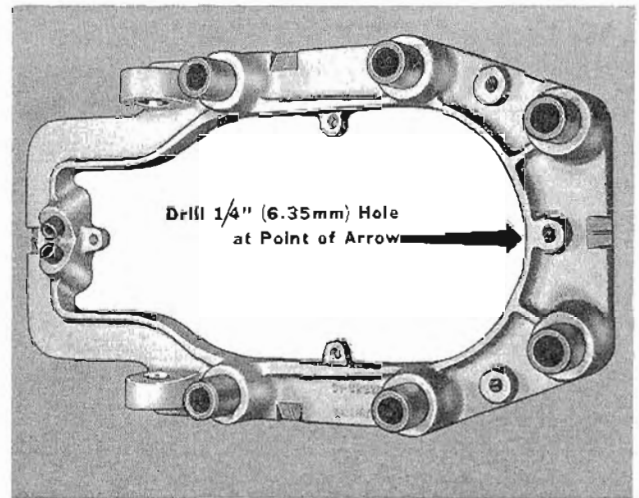

Figure 1. Location of Hole to Be Drilled When Using C-91-32924A1 Transom Drilling Fixture
1. Drill an extra 1/4" (6.35mm) hole as shown in Figure 1, as a pilot for hole saw.